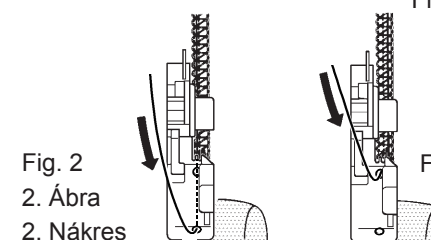

Fig. 2
2. Insert the cord through either the front or rear hole (according to the operation, see diagrams Figures 2 and 3), in the presser foot and pass it under and to the rear of the foot.
FOR JOINING SHOULDERS OR SLEEVES, pass the cord through the front hole, ensuring that it is fixed between the left and right needle threads as it is guided through the front hole. (Fig. 2).